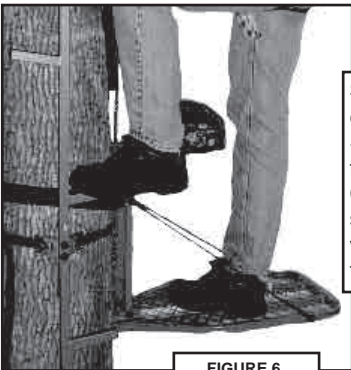

FIGURE 6
STEP 6: When moving from your climbing aid to your Hang-On Tree Stand, step down from the aid to the stand as shown in Fig. 6. Cautiously put your weight on the stand's platform. The additional weight will create tension on the tree attachment strap and cables.